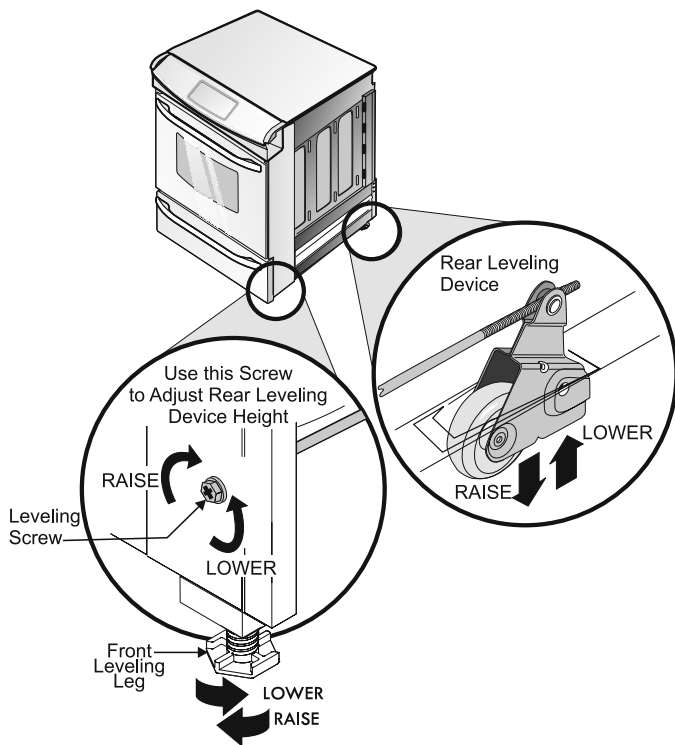

Figure 16
2. Adjust the appliance wheels and legs as follows until the underside of the cooktop surface is sitting level on the countertop (Figure 16).